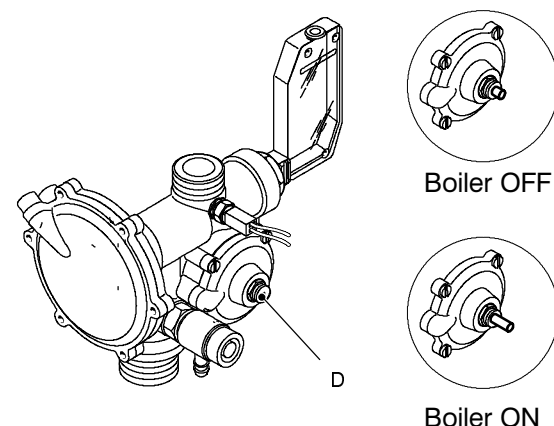

fig. 60
- 3 Start and stop the boiler in c/h operation (time switch and external controls must call for heat) and verify the position of the shaft D referring to fig. 60